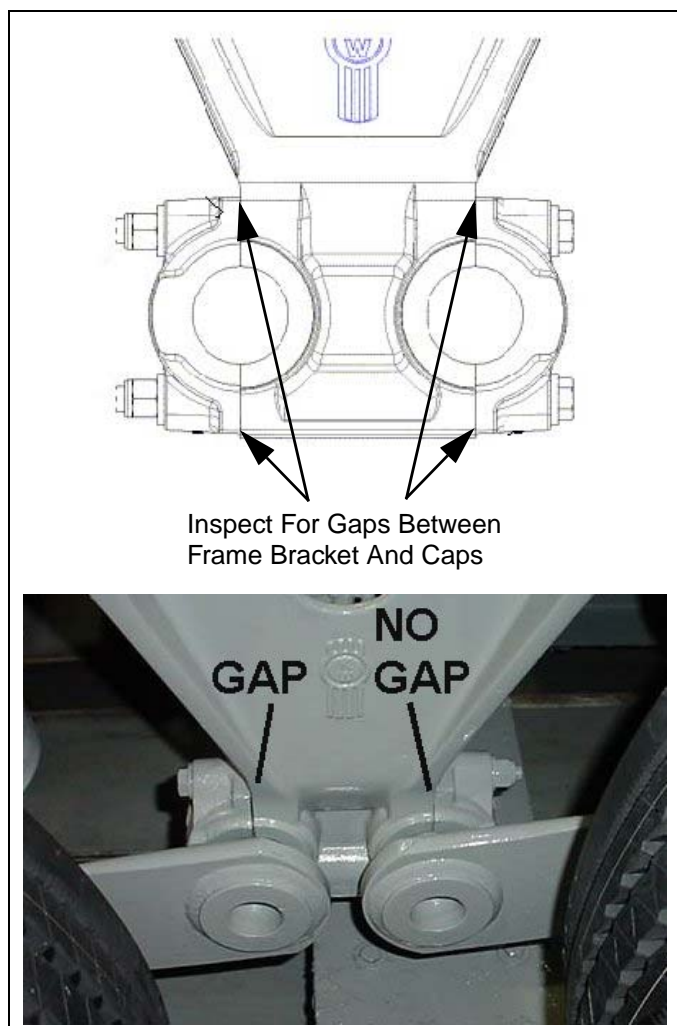

Figure 17-34
23. Inspect all joints for gaps between frame bracket and caps. See Figure 17-34.